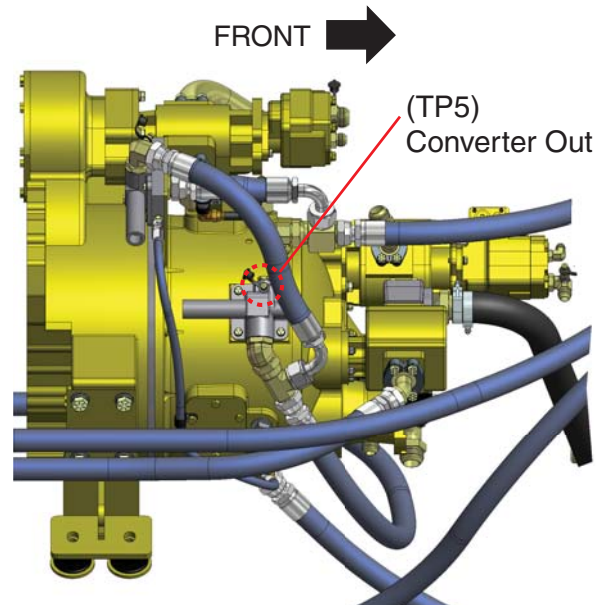

Figure 2 - Top View of Converter
11. Engine OFF, remove gauge and install gauge at converter out pressure TP5 (see Figure 2).